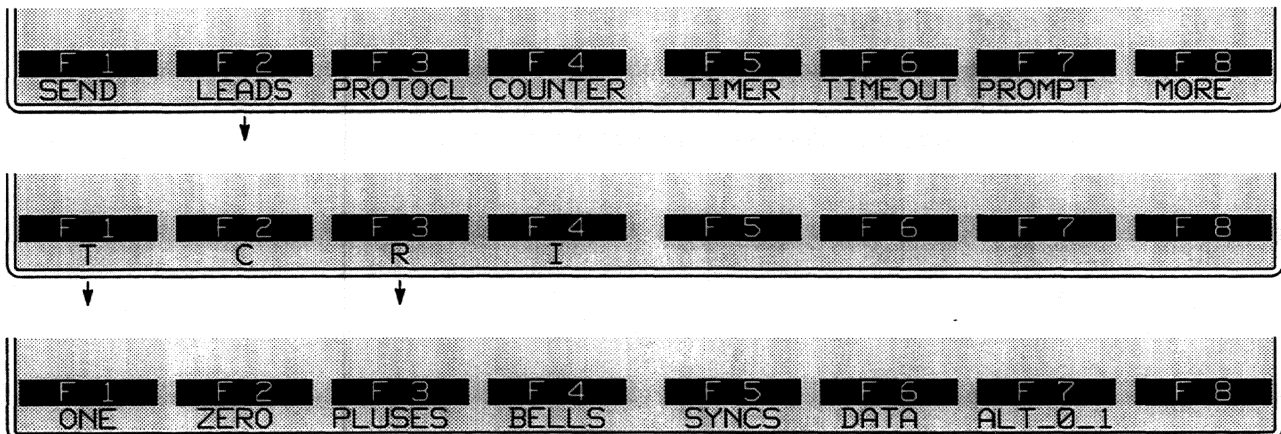

Figure 36-7 X.21 data leads T and R sometimes perform a "control" function by idling various characters.
4. *Idle.* Data leads also may be programmed to idle constant mark, constant space, bell characters, plus characters, sync characters, and alternating 0 and 1. Figure 36-7 shows the softkey path going through LEADS and T or R to the various idle states.
7. *Data.* A ONE or ZERO leads action will clamp the line to the requisite voltage level. Once a lead is clamped, it must be unclamped before it can be used again for data. The DATA softkey shown in Figure 36-7 represents the "unclamp" action.